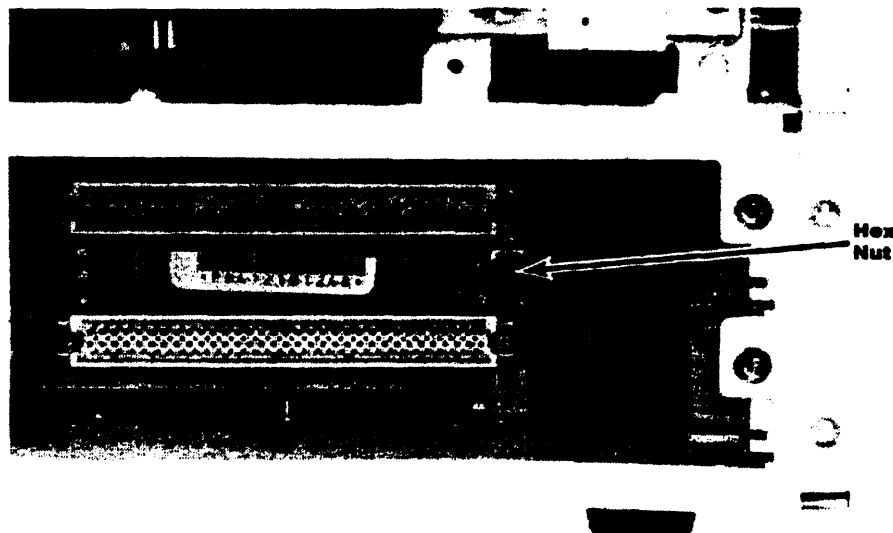

Figure 6-29a. Grounding Nut
5. Remove the 5.5-mm grounding nut accessible through the hole in the I/O PCA (see figure 6-29a).